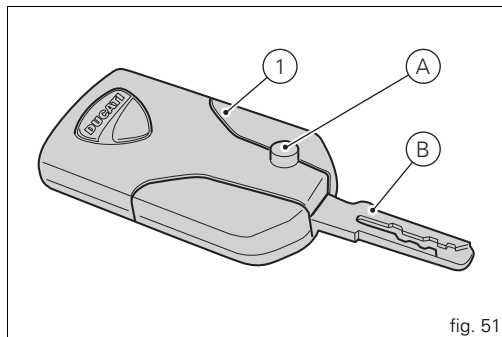

fig. 51
The active key (1, fig. 51) is the one that is normally used and has a button (A, fig. 51) that when pressed makes the metal part exit (B, fig. 51). The metal part returns inside the grip by pushing it in.